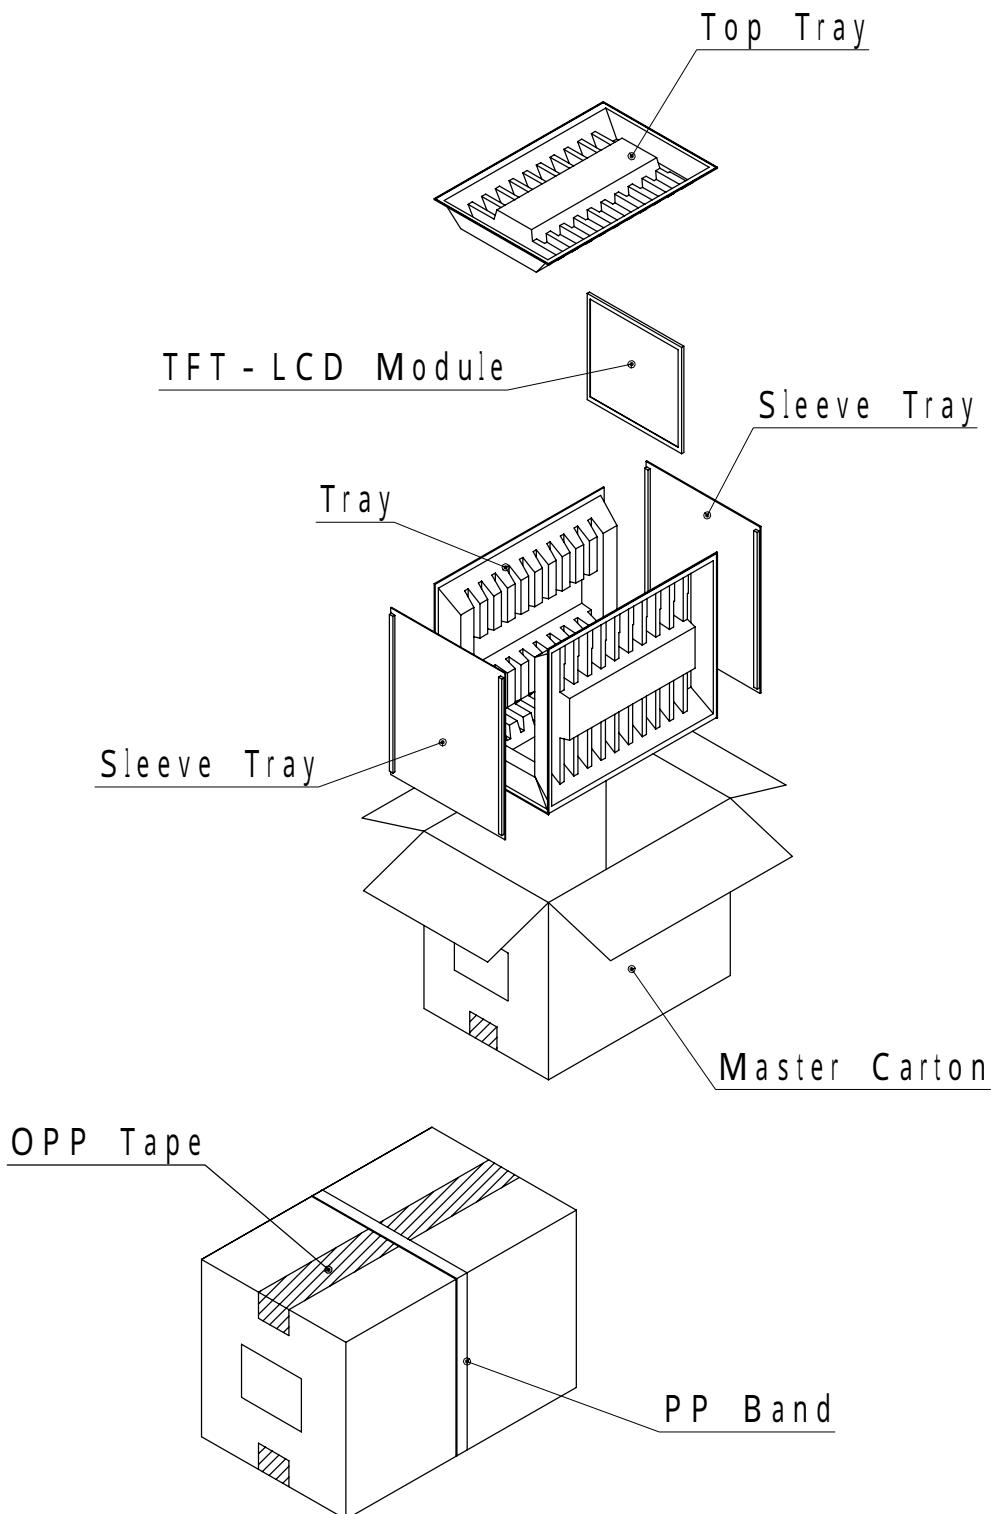

Fig 3 - 1 . P a c k i n g F o r m
13. Packing form (See Fig.3)
- c) Carton size : 438(W) x 372(D) x 307(H)mm